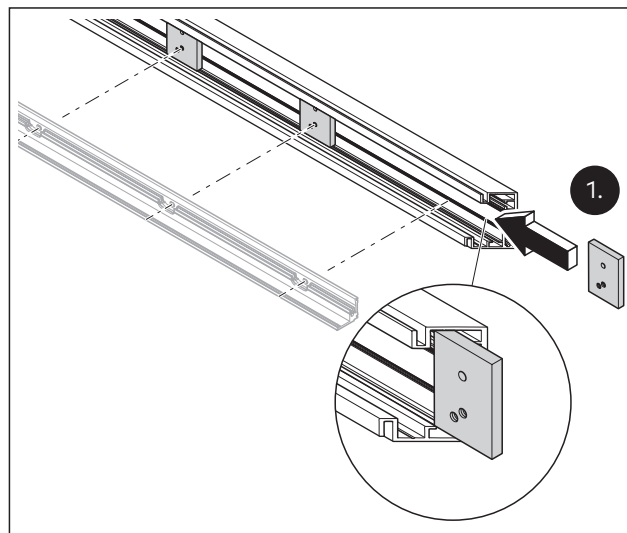

Fig. 15 Insert the spacers into the sections of the acoustic element frame for the base profiles
1. Insert the spacers into the sections so that there is a spacer for each drill hole in the base section (Fig. 15).